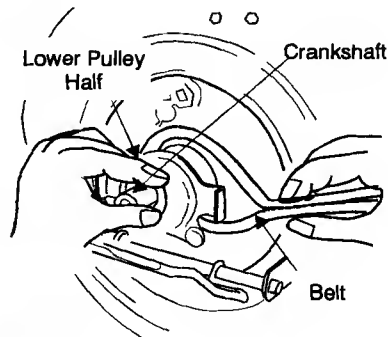

Figure 24
14. Lift off the lower pulley assembly and remove the old belt from around the crankshaft. See figure 24.
15. Place the new belt over the transmission pulley. Start the belt in pulley groove and rotate pulley until belt is seated in transmission pulley. See figure 24.